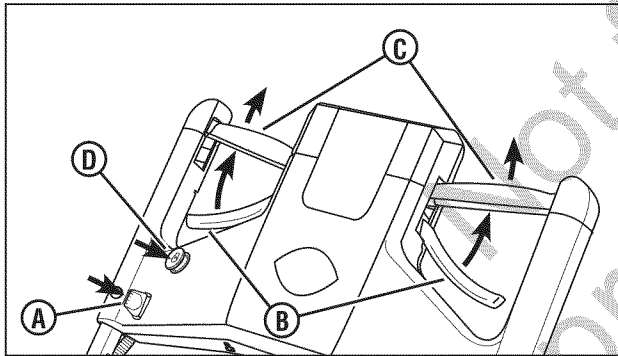

Figure 3: Starting the mower
1. Plug the starter insert (A, Figure 3) into the connection slot in the control console.
2. Squeeze the blade control (B) against the drive control (C).
4. Push the start button (D) to start the engine.